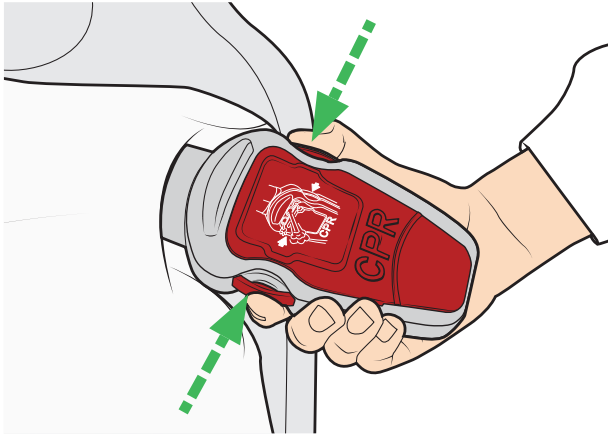

Figure 25
1. Press both the CPR rapid deflation unit release buttons simultaneously. See Figure 25